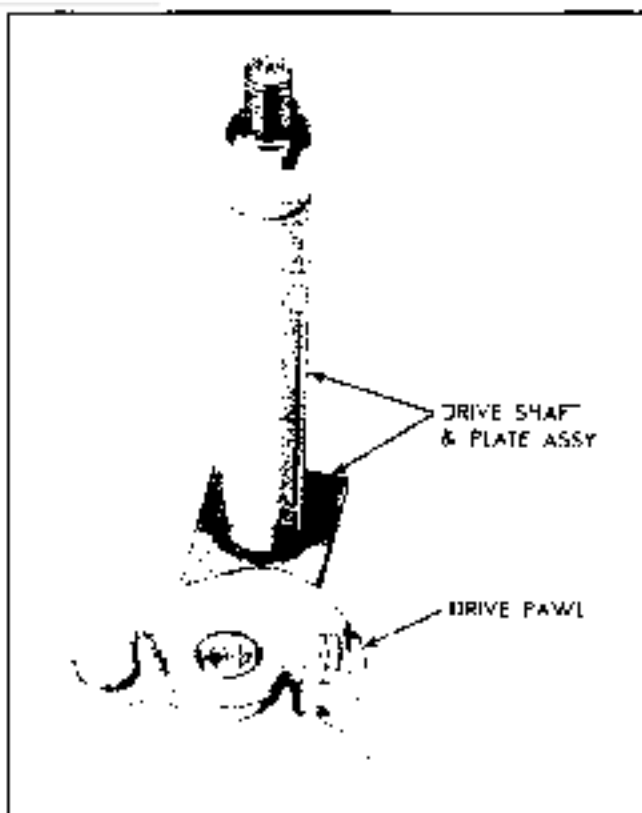

Fig. 12-38 Assembly of Drive Pawl to Drive Shaft—Pontiac
1. Position drive pawl on drive shaft as shown in Fig. 12-38.